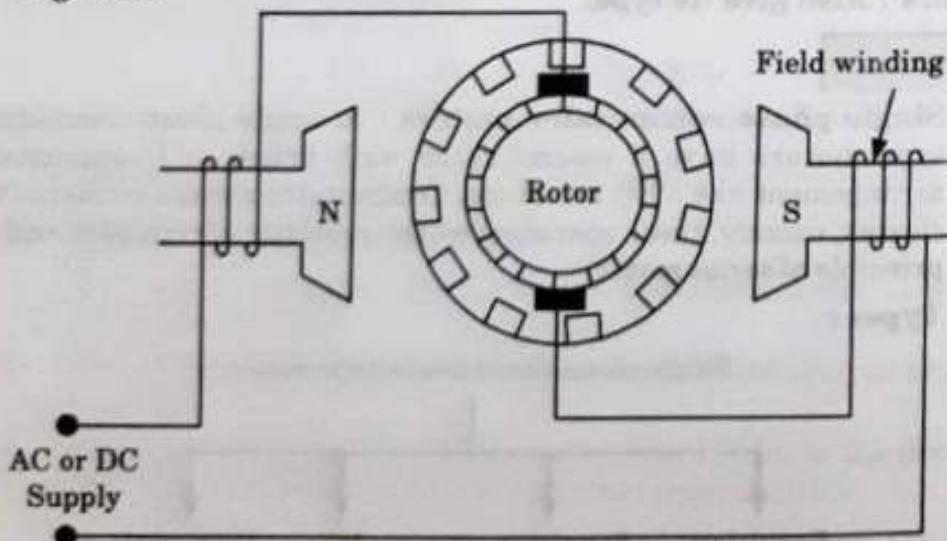

Fig. 5.5.1.
9. Thus, regardless of AC or DC supply, universal motor works on the same principle that DC series motor works. It is shown in Fig. 5.5.1.